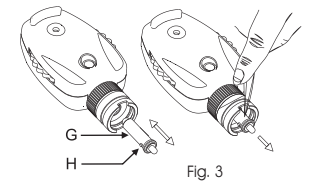

Fig. 3
Unmount the ophthalmoscope head from the handle and pull the lamp (G) downwards as in Fig.3. Wipe the new lamp glass clean and insert it so that the locating pin (H) fits into the slit.